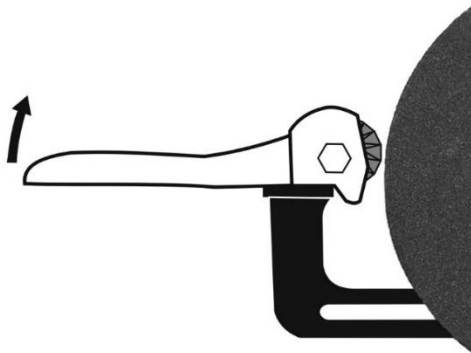

Figure 9-3: wheel dressing
1. Back off the tool rest enough to allow the dresser to hook over its inside edge (Figure 9-3). Tighten tool rest in position.